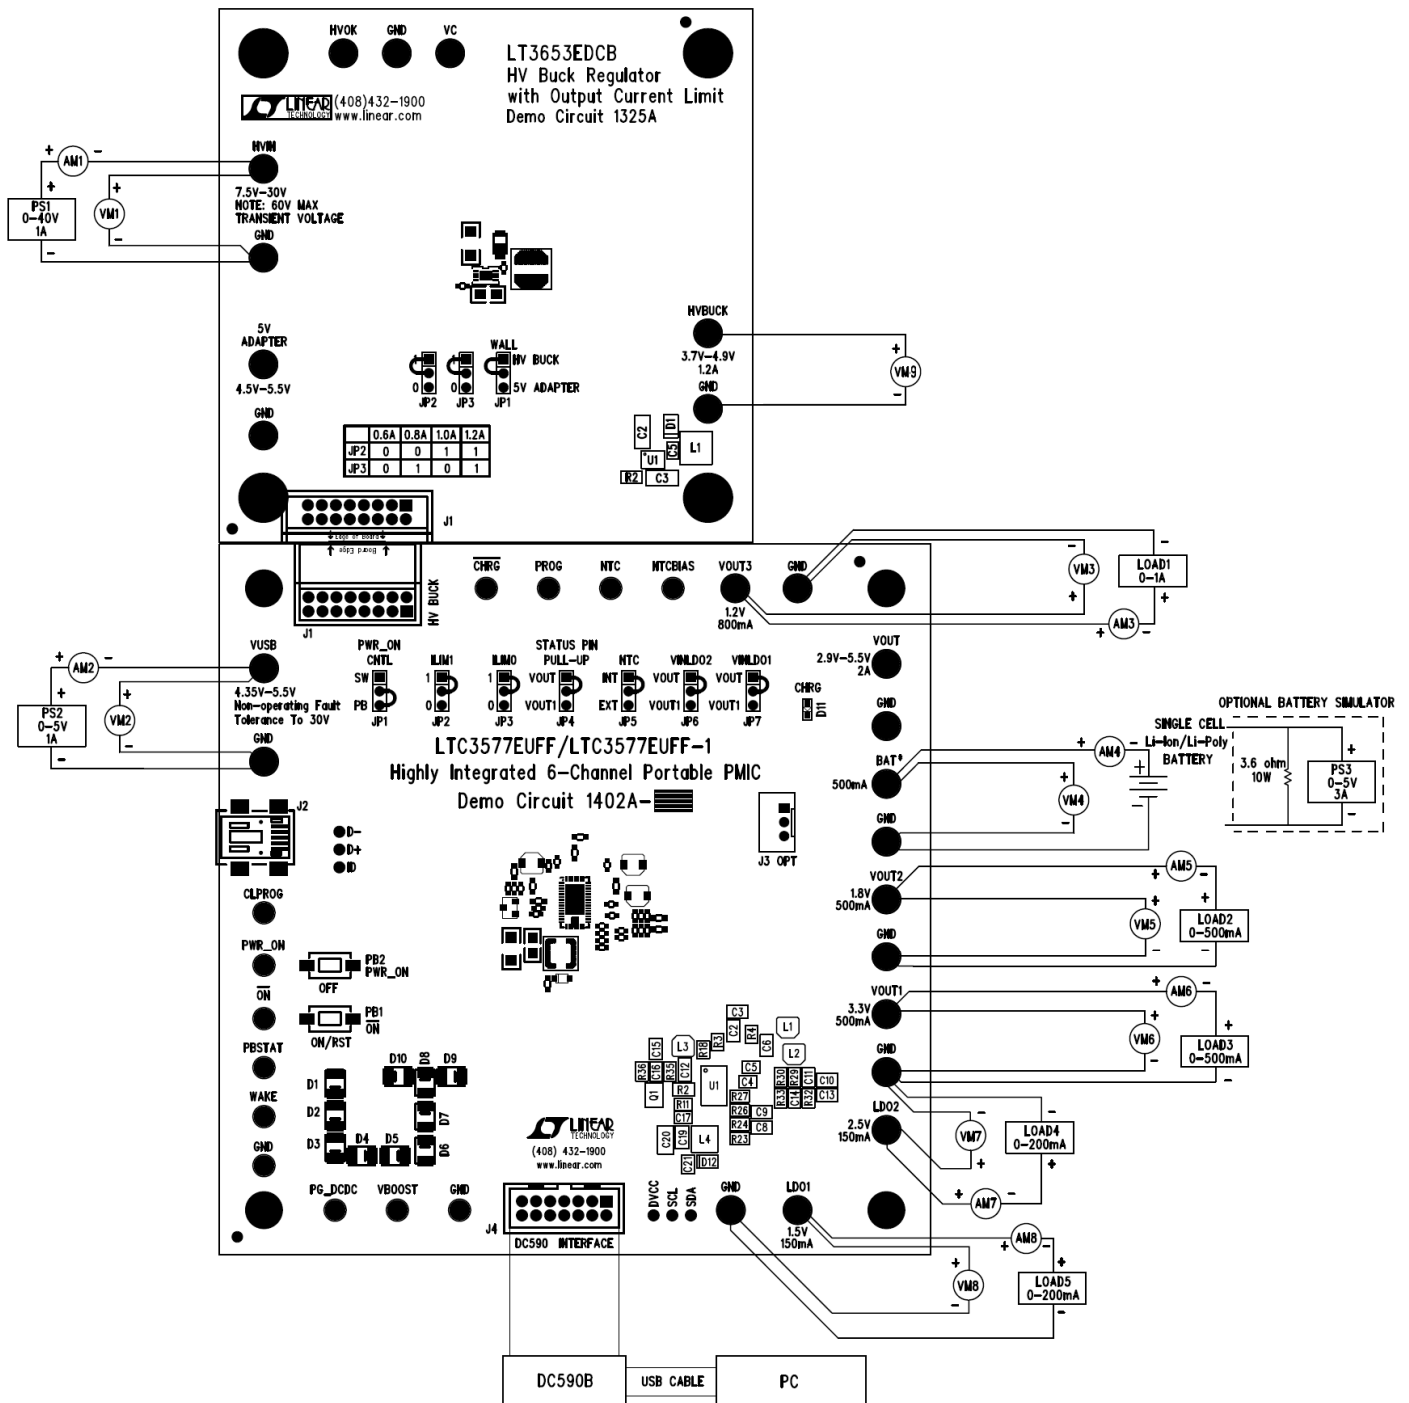
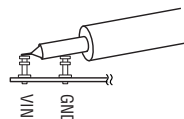

Figure 1. Proper Measurement Equipment Setup
Figure 2. Measuring Input or Output Ripple
The DC1402 is easy to set up to evaluate the performance of the LTC3577 and LTC3577-1. Refer to Figure 1 and Figure 2 for proper measurement equipment setup and follow the procedure below to evaluate using the DC590B board:
**NOTE.** When measuring the input or output voltage ripple, care must be taken to avoid a long ground lead on the oscilloscope probe. Measure the input or output voltage ripple by touching the probe tip directly across the Vin or Vout and GND terminals. See Figure 2 for proper scope probe technique.
5. Connect DC1402 to the DC590B USB Serial Controller using the supplied 14-conductor ribbon cable as shown in Figure 1.
6. With power off, connect a 5V, 1A power supply to VUSB and GND with a series ammeter and a voltmeter as shown in Figure 1.
7. Connect a battery or a battery simulator set to 3.6V between BAT and GND with a series ammeter and a voltmeter as shown in Figure 1.
21. If using an external HV buck demo board, connect it to demo circuit 1402-2 as indicated in Figure 1.